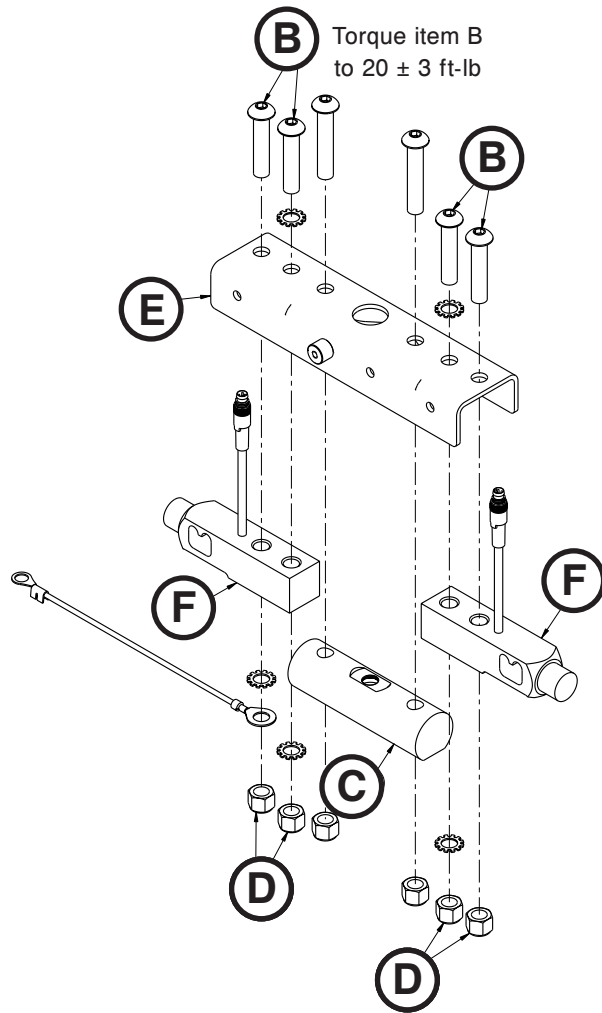
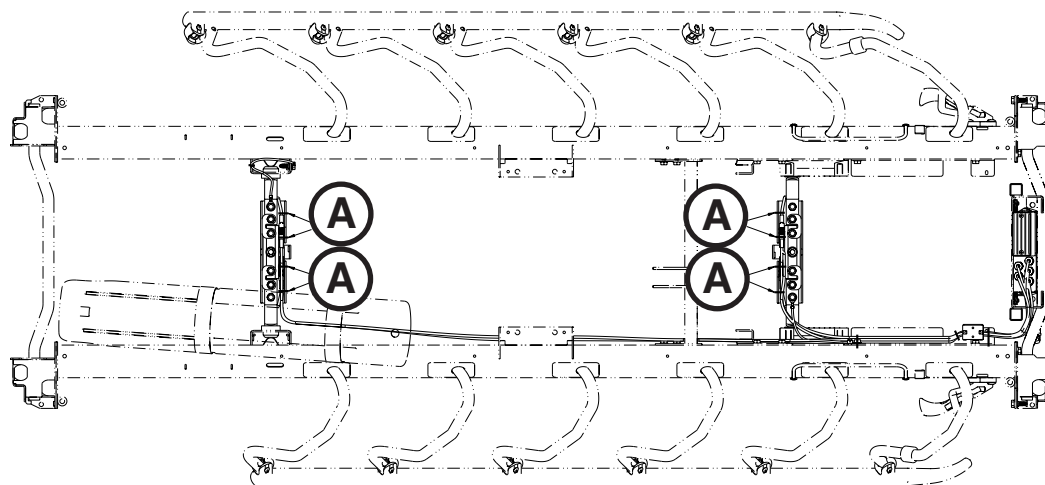

Figure 62
Figure 61
3. Using wire cutters, cut the cable ties (A) (Figure 61) that hold the cable to the lifthead bracket (E) (Figure 62).
6. Using a 7/32" hex wrench and 9/16" socket, remove the two Nylock hex nuts (D) and button head cap screws (B) that hold the load cell (F) to the lifthead bracket (E) (Figure 62).
7. If the load cell (F) cannot be worked free, remove the bolt from the jack cross support tube (C) and lift the cross support off the jack. The load cell should be easily removed (Figure 62).